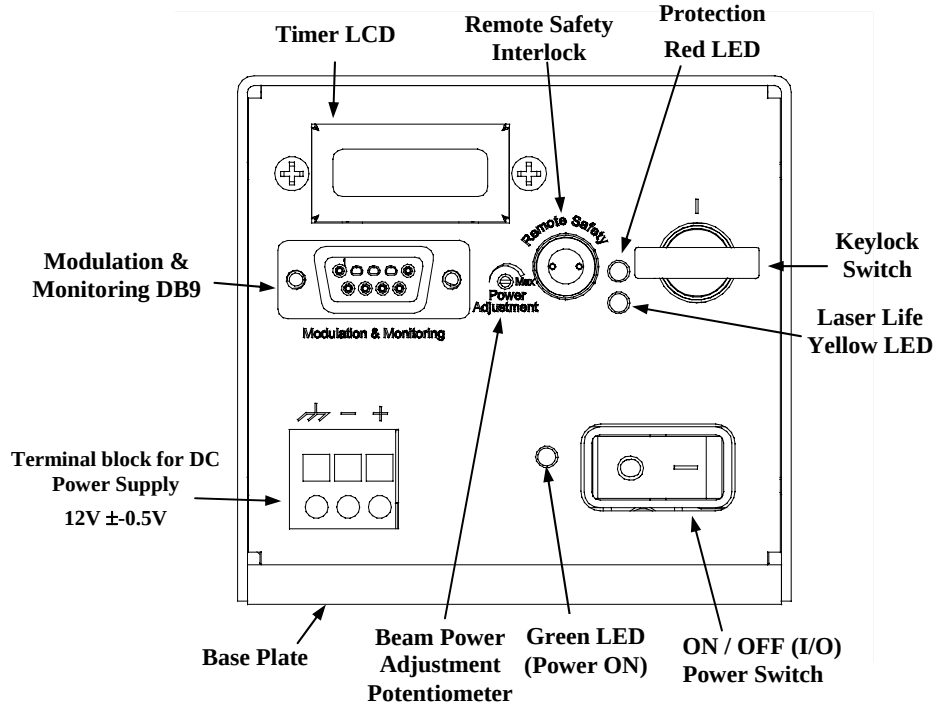

Figure 4: The control panel of the Magnum II
Both Magnum II options have the same control panel (Fig. 4). It is located at the back panel of the Magnum II Standard option and the back panel of the Laser Driver unit of the Separate Driver option.
- **CW mode:** In this mode, the laser beam power is constant. Its value can be adjusted by the beam adjusting potentiometer located on the control panel (Fig. 4). The Magnum II with positive modulation (options –RT and –RS) requires a +5VDC signal at the modulation input to generate a continuous beam. With negative modulation (standard option –S and option –T), the modulation input must be connected to GND or left unconnected to generate a continuous beam.